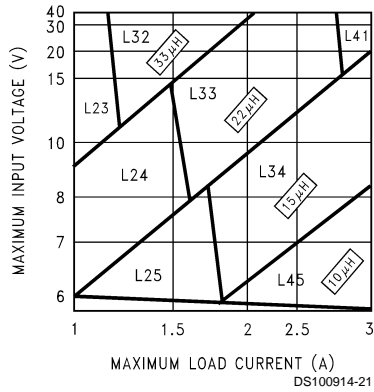
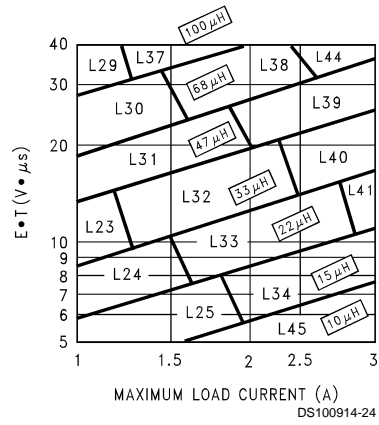

FIGURE 3. LM2676-3.3
FIGURE 6. LM2676-ADJ
**Step 3:** Determine the inductor required by using one of the four nomographs, *Figure 3* through *Figure 6*. Table 1 provides a specific manufacturer and part number for the inductor.
**Step 5:** Determine an input capacitor from Table 4 for fixed output voltage applications. Use Table 2 to find the specific capacitor type. For adjustable output circuits select a capacitor from Table 2 with a sufficient working voltage (WV) rating greater than  $V_{in\ max}$ , and an rms current rating greater than one-half the maximum load current (2 or more capacitors in parallel may be required).
**Step 3:** Use the nomograph for the 3.3V device, *Figure 3*. The intersection of the 16V horizontal line ( $V_{in\ max}$ ) and the 2.5A vertical line ( $I_{load\ max}$ ) indicates that L33, a 22 $\mu$ H inductor, is required.
**Step 3:** To use the nomograph for the adjustable device, *Figure 6*, requires a calculation of the inductor Volt $\cdot$ microsecond constant ( $E \cdot T$  expressed in  $V \cdot \mu S$ ) from the following formula:
Using *Figure 6*, the intersection of 27V $\cdot$  $\mu$ S horizontally and the 2A vertical line ( $I_{load\ max}$ ) indicates that L38, a 68 $\mu$ H inductor, should be used.
**Important Note:** When using the adjustable device in low voltage applications (less than 3V output), if the nomograph, *Figure 6*, selects an inductance of 22 $\mu$ H or less, Table 6 does not provide an output capacitor solution. With these conditions the number of output capacitors required for stable operation becomes impractical. It is recommended to use either a 33 $\mu$ H or 47 $\mu$ H inductor and the output capacitors from Table 6.